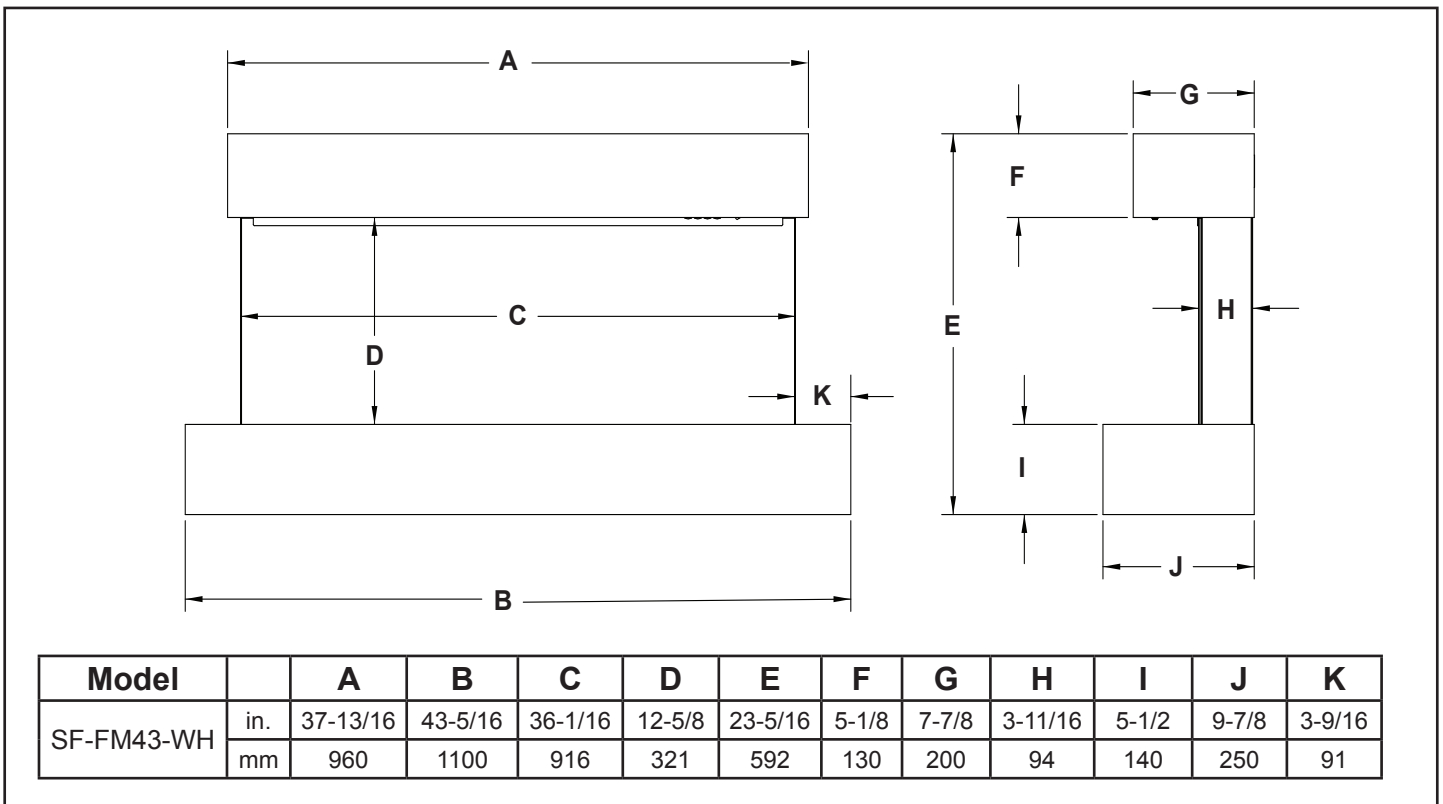
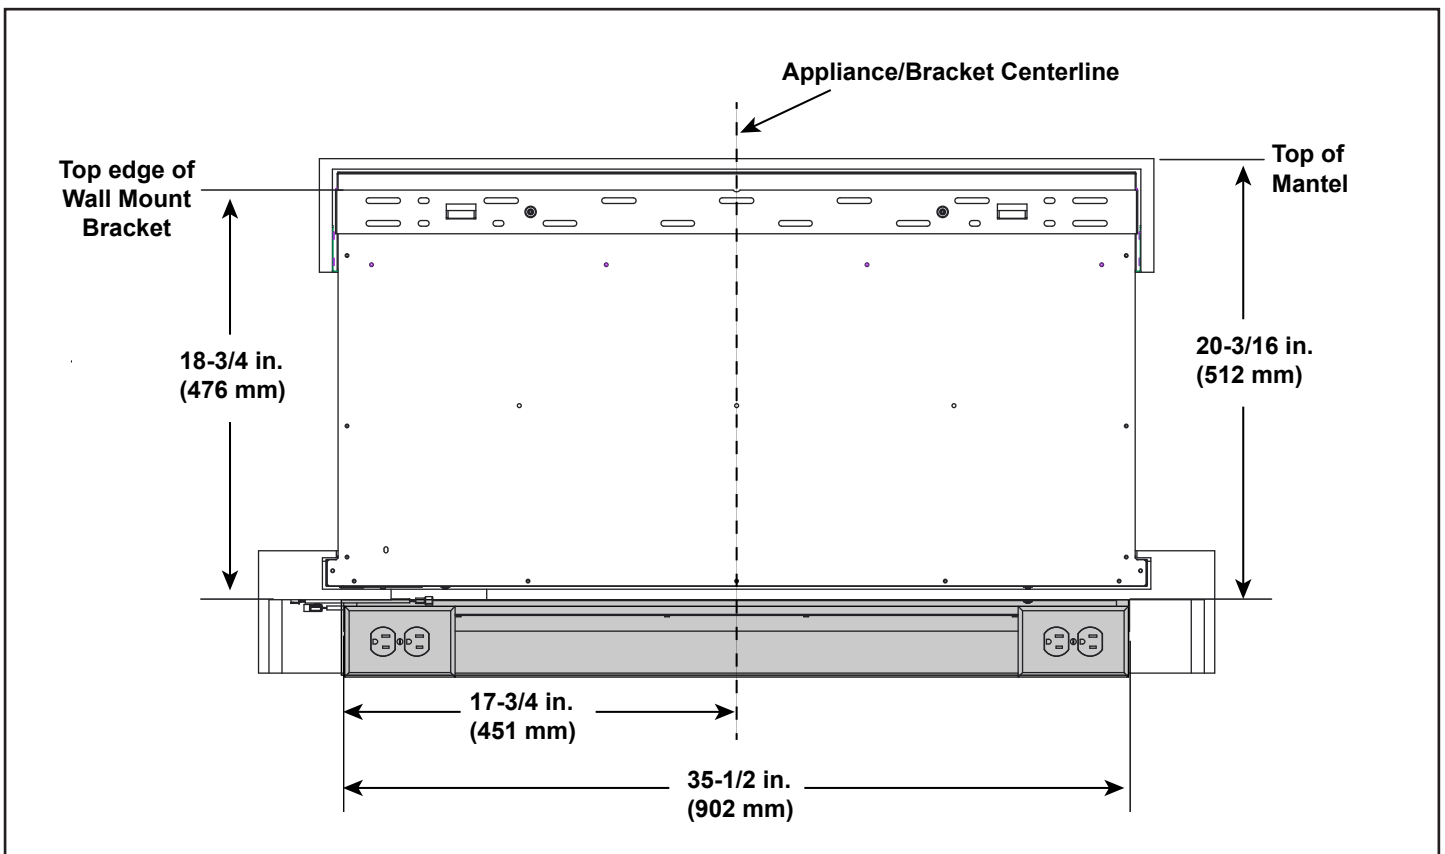
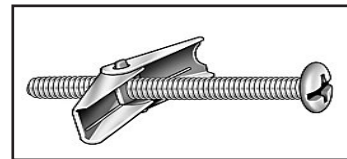

Figure 3.1 Appliance Dimensions - SF-FM43-WH
Figure 4.1 Discrete Locating of Outlet Receptacle
Figure 4.3 3/16 Toggle-Bolt Anchor
When locating the wall mount bracket be aware of the final position and dimensions of the appliance, mantel and electrical receptacle. See Figures 3.1 and 3.2 for mantel dimension and Figure 4.1 for dimension in relations to the wall mount bracket.
An electrical receptacle may be discretely located under the bottom mantel section. Refer to Figure 4.1. When planning the location of your appliance, special care is required to ensure the wall mount bracket is located a sufficient distance above the electrical receptacle. Refer to Figure 4.1 when planning placement of the appliance, electrical receptacle and wall mount bracket.
- Locate the mounting bracket on the wall (orient the bracket with the hooks pointing upwards) in the desired location of the appliance. Refer to figure 4.1 when planning the location of the wall mount bracket in relation to the electrical receptacle. Level the bracket, then mark its location on the wall, including a marking for each of the fastener holes in the bracket.
- For each of the marked mounting point locations, determine which points align with a structural framing member. A minimum of two (2) locations must be secured into a framing member.
- For every mounting hole that does not align with a structural framing member, a wall board toggle-bolt anchor must be used. See Figure 4.3.